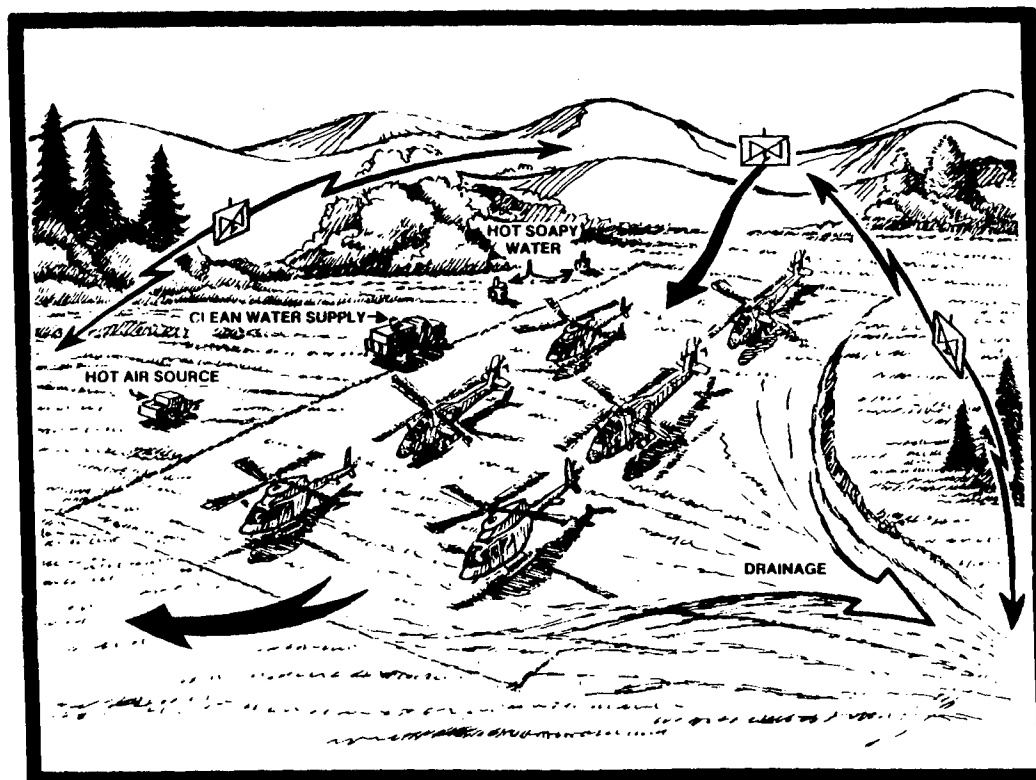

Figure 6-4. One-Station Decontamination Site.
**One-Station Method.** This station is established the same as the four-station methods, but the station itself is mobile. Aircraft arrive in flights of four to eight, depending on the size of the site. All aircraft in the flight land and shut down in a single area, and aircrews exit the aircraft. Decontamination personnel move equipment to the aircraft and perform the decontamination steps. Aircrews are decontaminated at a nearby decontamination area. The one-station method is relatively quick, but runoff from the aircraft will contaminate the ground. When an aircraft takes off, rotor wash may recontaminate the aircraft as well as personnel and equipment at the site. Pressurized water sources include the M12A1 power-driven decontaminating apparatus, the M17 sanator system, and the M13 decontaminating apparatus portable. Figure 6-4 shows a one-station decontamination site.